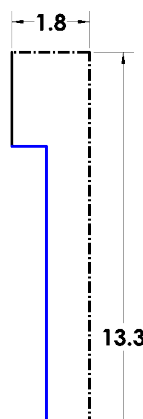

Fig. 3
Step 1. Click **Line**  (L) on the Sketch toolbar.
Step 2. Sketch the **three lines**, **Fig. 3**.
Step 3. Click **Smart Dimension**  (S) on the Sketch toolbar.